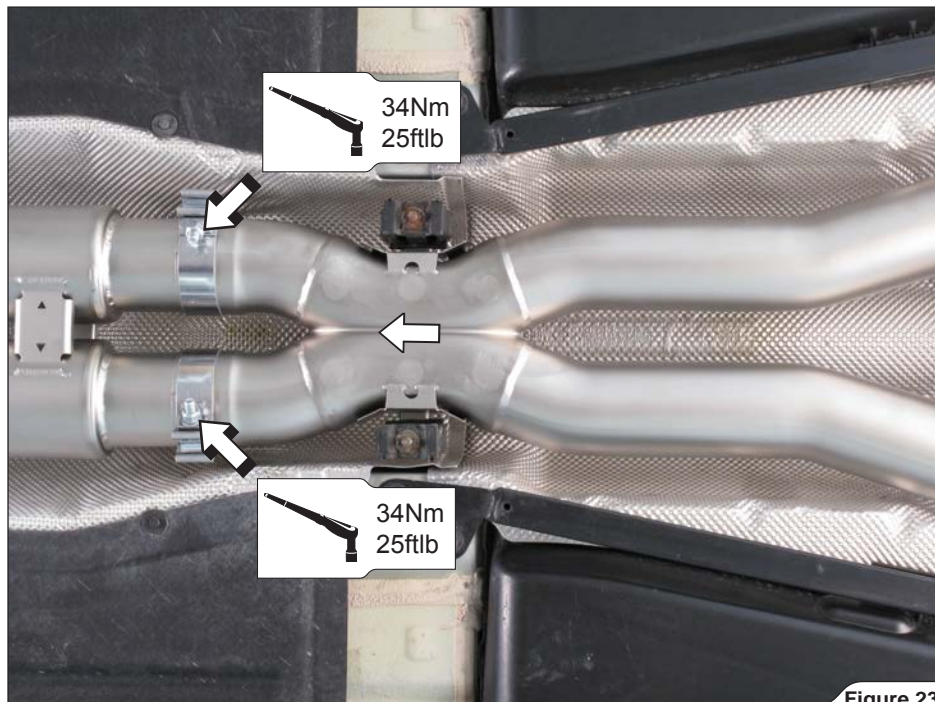

Figure 23
5. Slide the collector all the way onto the link pipes and tighten the clamps (**Figure 23**).